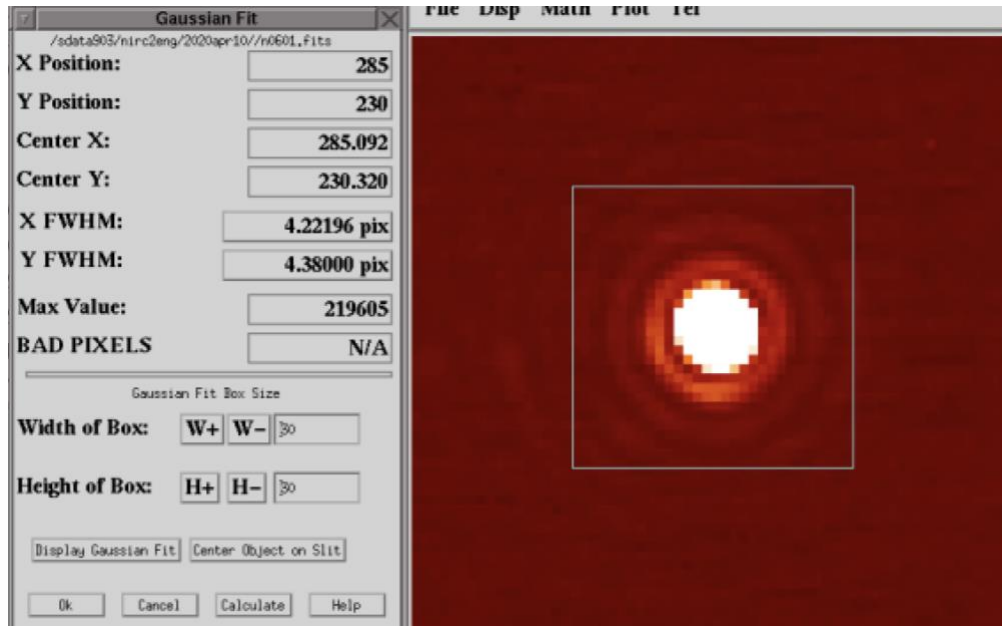

Figure 15: Example NIRC2 image and Gaussian fit
- a. Check quality of the NIRC2 image (see FIGURE 15). The FWHM of the images should be ~ 4.3 pixels.